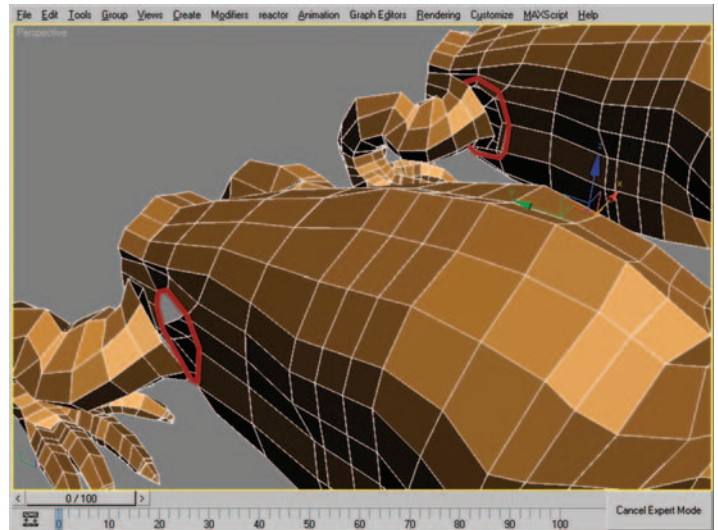

Figure 9.84 Border selection before and after using Chamfer. Right mesh has an additional edge loop.
47. At the Border subobject level, select the open leg border on the iguana's body mesh (Figure 9.84, left) and use the Chamfer settings with a Chamfer amount of 0.22 to create an additional edge loop (Figure 9.84, right).